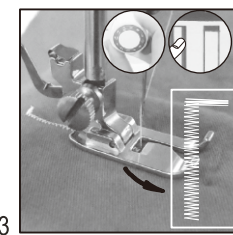

Fig.24
3. Choose the 11th stitch, turn on switch and sew on the cloth in suitable length, then turn off switch. Note that try to keep sewed stitch in straight line(Fig.24)..